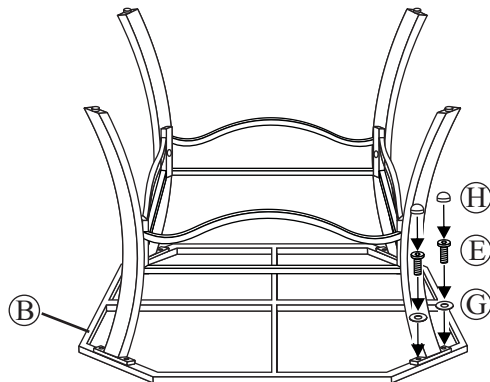

Fig. 2
Step 3: Attach the completed base to the table rim by using the 1/4"x30 mm bolts and washers, as shown in Fig.2. Guide the bolt through the hole in the table leg into the pre-drilled hole in the table rim. **Hand tighten only 2-3 revolutions.** Repeat for the other three legs.